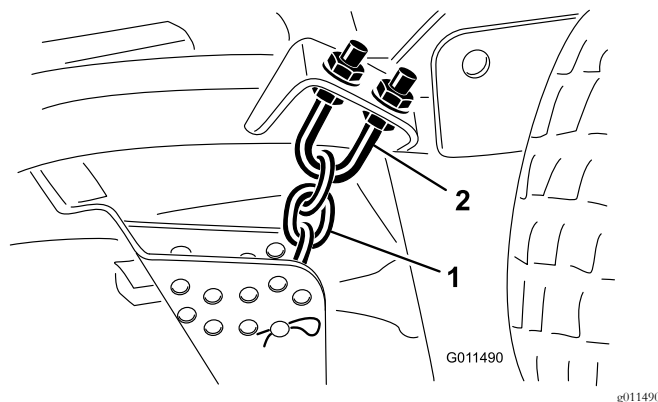

Figure 72
1. Loosen the jam nuts on the top or bottom of the height-of-cut chain U-bolt (Figure 72).